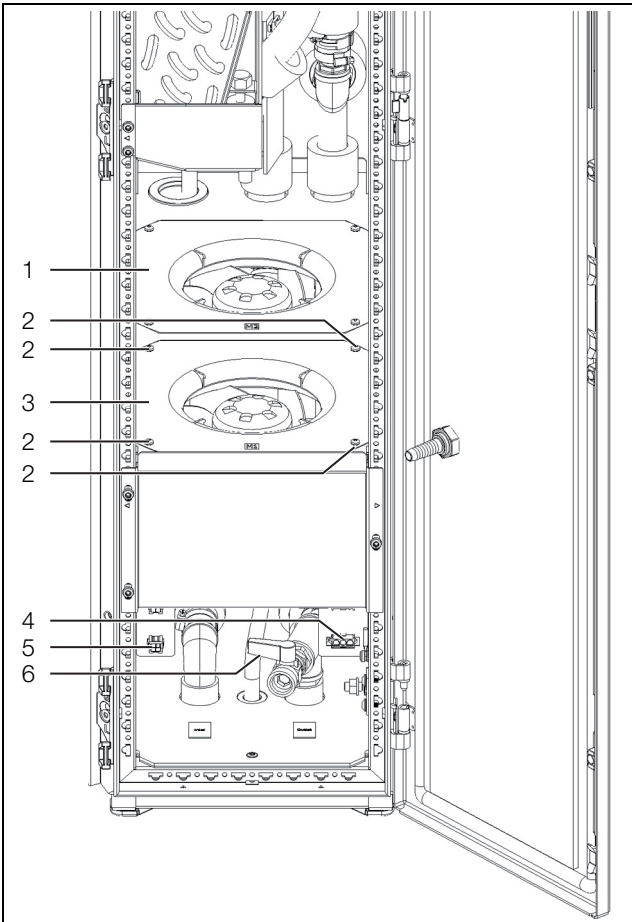

Fig. 22: Fan replacement
- Open the drain valve (fig. 22, item 6).